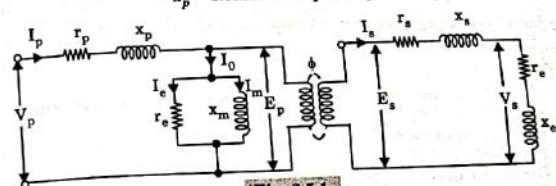

Fig. 3.5.1.
1. Fig. 3.5.1 shows the equivalent circuit and phasor diagram respectively of a potential transformer.